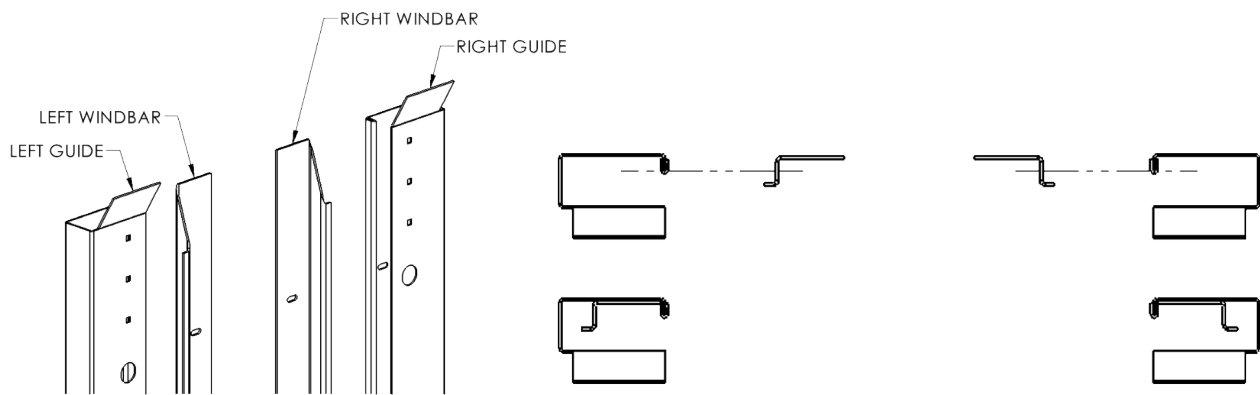

figure 17: Wind bar insertion into guide
- ✦ Once both guides have been correctly positioned, insert the corresponding wind bar into each guide ensuring they are pulled as far inward as possible in the guide (See Figure 17 & 17a), then attach to jamb using the appropriate fasteners, at each hole location. See Table F.